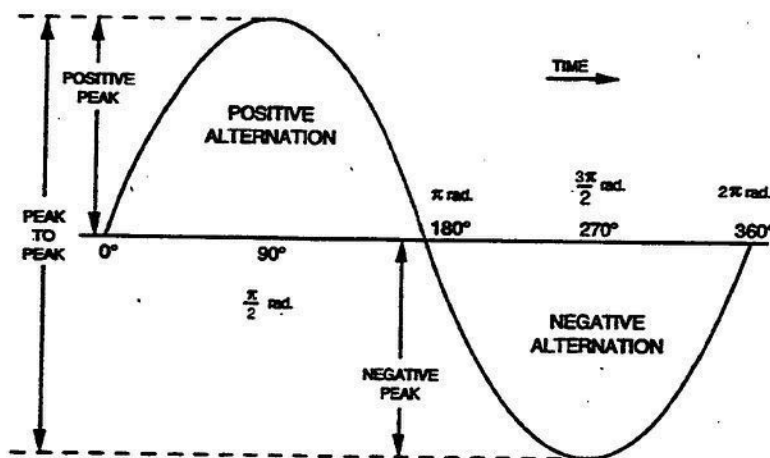

Figure 2-61. AC sine wave.
The sine wave shown in figure 2-61 results from a plot of the instantaneous current output of a generator due to the rotation of its armature. The length of the horizontal line represents the time of one rotation of such an armature. We have noted specific points of rotation of this line in both degrees and radians (a term that also represents the amount of angular rotation).
**Peak voltage.** Notice that the horizontal line in figure 2-61 divides the sine wave into two equal parts—one above the line and the other below it. The portion above the line represents the positive alternation and the portion below represents the negative alternation. Notice that the wave reaches its maximum swing from zero at  $90^\circ$  and  $270^\circ$ . Each of these points is called the *peak* of the sine wave.
Another value of importance is the peak-to-peak value. This term, as shown in figure 2-61, represents the difference in value between the positive and negative peaks of a sine wave. Of course, this is equal to twice the peak value. Why is this
**Average voltage.** It is also important to know the average value in a sine wave. The average value is the average of the instantaneous values of all points in a single alternation. The average of a complete sine wave is zero. The average of a sine function can be defined as the area under one alternation divided by the base of the alternation. The base of one alternation, as in figure 2-61, is  $\pi$  radians. Unlike our computation of area under the  $I^2$  curve, the area under a curved surface such as a sine wave is very complex. To save us a lot of math, accept the fact that the area of one alternation is equivalent to two times its peak value (voltage or current). The average value may then be defined by the following expression: